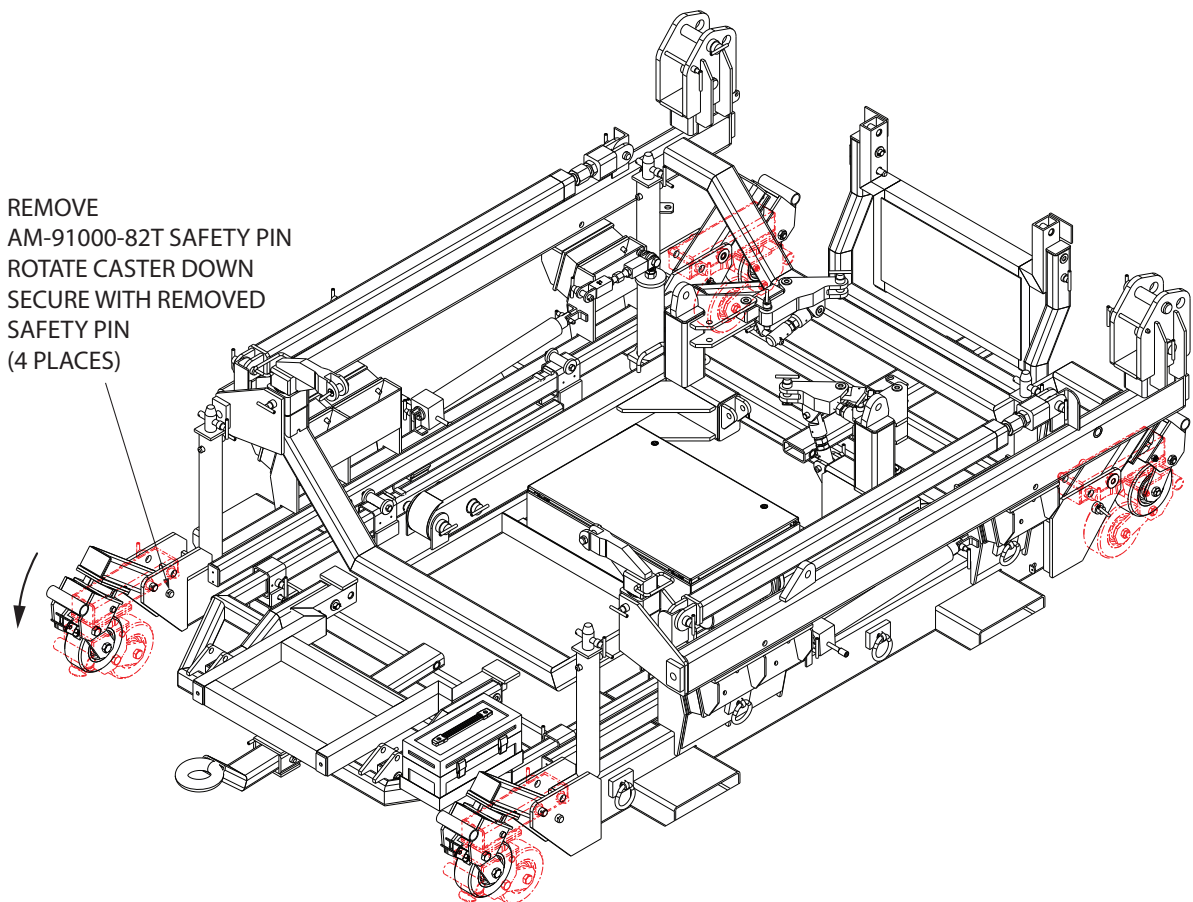

Figure 5.1-1
- 3) Deploy the four (4) casters by removing four (4) AM-91000-82T safety pins (IPB Figure 3 - Item 17). Secure with the same hardware. (Illustration Figure 5.1-1).